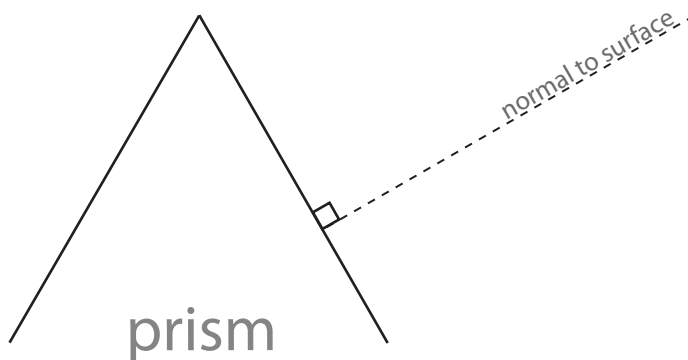

Figure 7: Draw labelled refracted rays using the prism in space above.
1. Fold your lab manual so that this single page lies as flat as possible on the bench. Place one point of the prism at the apex ('V') of the outline marked 'prism' in Figure 7 below. Maintaining the alignment of the tip of the prism and the 'V', adjust the prism to best align the sides with the provided outline. Plug the ray box back in and position it so that the ray is incident on the prism such that it strikes the prism *centered* on where the dashed 'normal to surface' line meets the prism.